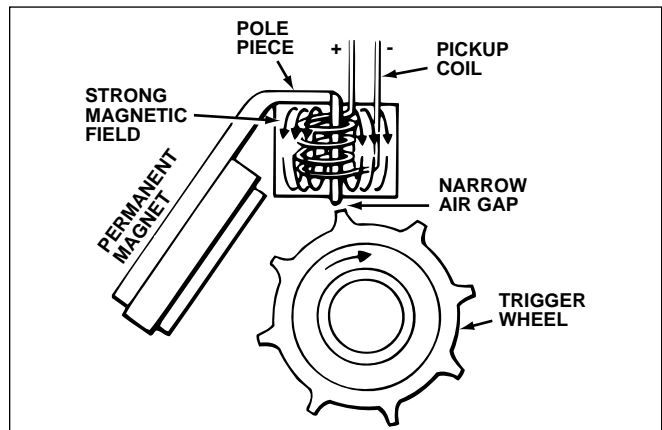

Fig. 5-25. Align a trigger wheel tooth with the pole piece when static timing an engine that uses a pickup coil.
3. Rotate the distributor housing in the direction of rotor rotation until the trigger wheel tooth is aligned with the pole piece, and the rotor is pointed toward number one plug wire in the distributor cap, figure 5-25